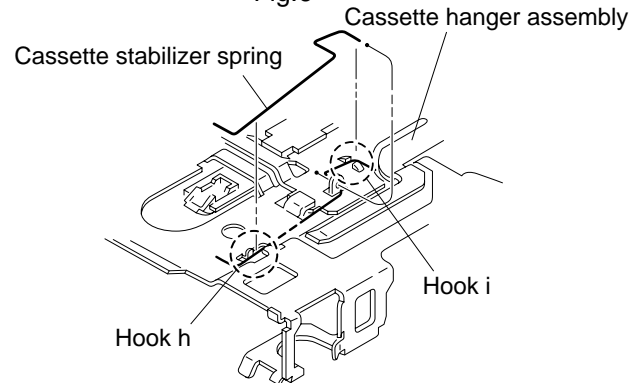

Fig.7
■ Removing the main board (See Fig.7 , 8)